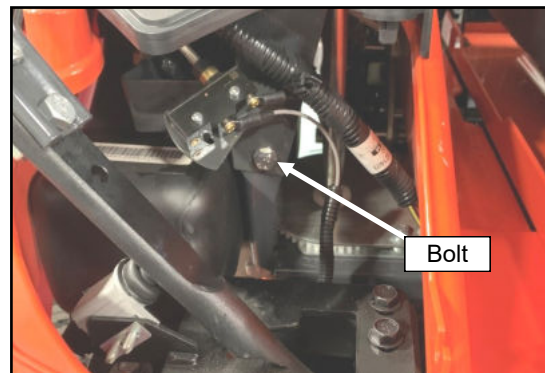

Fig. 7.10 (Install Switch Bracket)
- 7.10 Remove the bolt shown in figure 7.10 and re-install with the switch bracket so that the spring loaded switch rod will be contacted by the throttle control lever. **Adjust the bracket and switch so that when the throttle control lever is beyond 3/4 throttle the switch is engaged.** The switch can be rotated on the bracket and the bracket can also be rotated where it mounts to the vehicle.